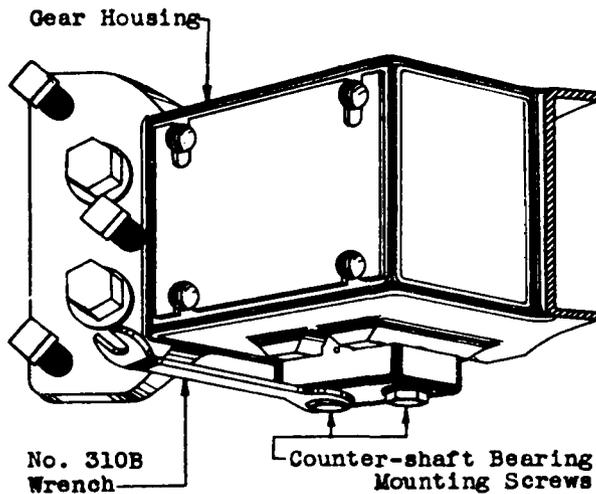

Fig. 29 - Adjustment of Counter-shaft Bracket to Obtain Minimum Back-lash Between Gears on 161 Type Interrupters
(3) After this adjustment has been made adjust for the backlash in the gears as follows.
(4) 152 and 161 Type Interrupters: In these types of interrupters the counter-shaft and associated gears are mounted in the gear housing in such a way that it is possible to adjust for the backlash of both sets of gears. To adjust loosen the counter-shaft bearing mounting screws with the No. 310B wrench as shown in Fig. 29 and shift the assembly until the minimum backlash without binding is obtained in both sets of gears. Securely tighten the mounting screws and again check for minimum backlash and binding.
(5) 166 Type Interrupters: In interrupters of this type the counter-shaft and associated gears are mounted on a bracket which in turn is mounted on the interrupter frame in such a way that the gear on the cam shaft of the interrupter and the associated gear are always in the proper mesh. This is accomplished by having the bracket rotate on the same center as the cam shaft of the interrupter. There is sufficient play in the bracket mounting holes to permit the bracket to be rotated so that the driven gear on the counter-shaft may be made to engage properly with the gear